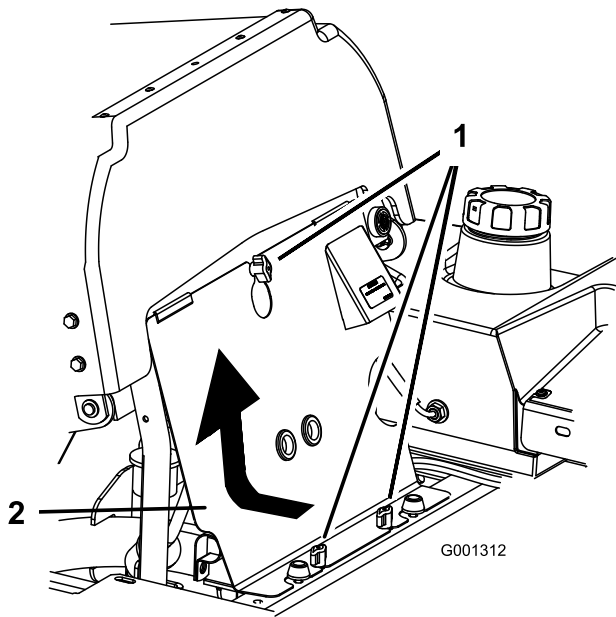

Figure 63
3. Loosen the front engine panel knobs and remove the panel (Figure 63).